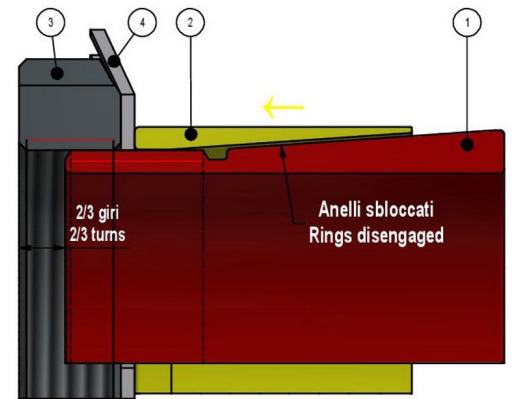

Fig. 3
2. For ease of installation, locking rings shall be disengaged (fig. 3). Loosen the nut by two/three turns and push the outer ring towards the nut.